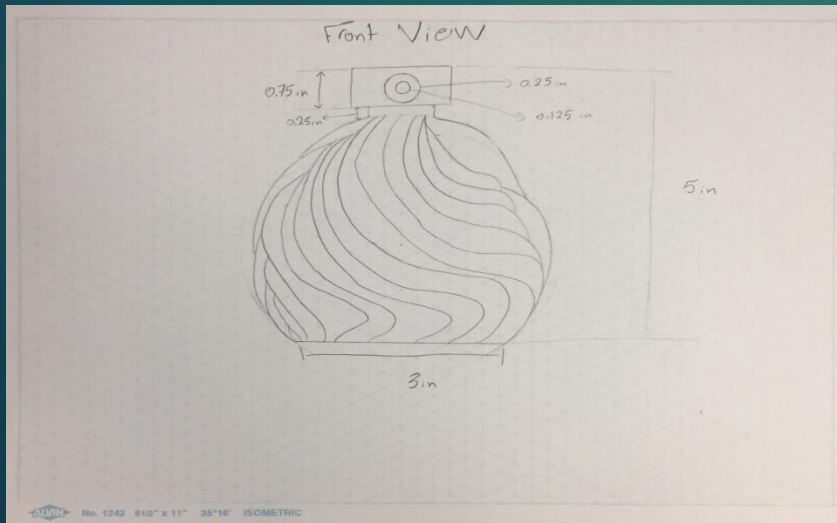

Figure 1: Front view of perfume
- 1) Create a mouse computer design in SolidWorks as Shown in figure 1. /10
- 5) Color the design as shown in the figure 1. /5